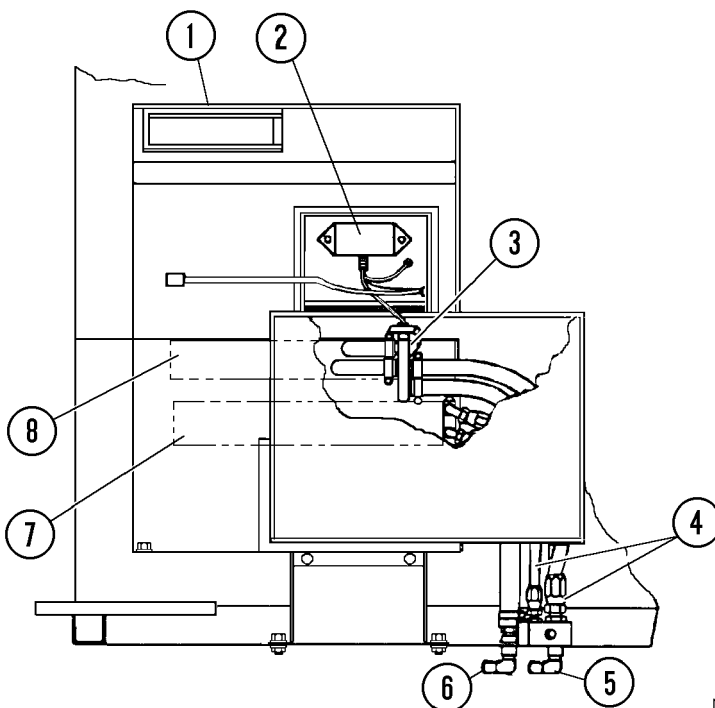

FIGURE 3-4. CAB HEATER/AIR CONDITIONER COMPONENTS
*NOTE: Figures 3-4 and 3-5 illustrate both the heater system and air conditioning system parts contained in the cab mounted enclosure. Refer to Section "M" for additional information regarding air conditioning system components, maintenance and repair.*